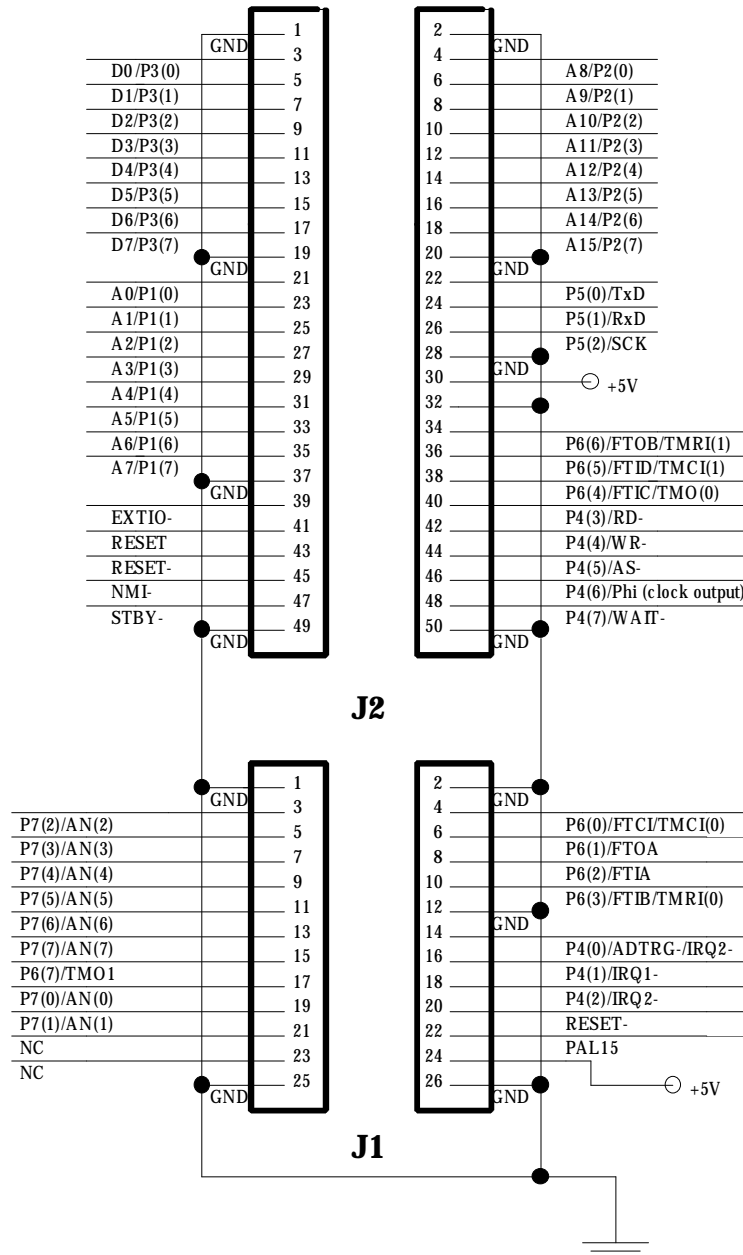

Figure 1. Expansion Bus I/O Headers new pin assignments.
Four (4) pins on the H8/325 socket will always be left unconnected to the H8/329 DIP socket. In this case, they are pin 9 (XTAL), 10 (EXTAL), 33 and 34. Figure 1 on the next page shows the Expansion Bus I/O Header (J1 and J2) new pin assignments, and effectively replaces the figure on page 20 in the H8/325 Evaluation Board User's Guide.